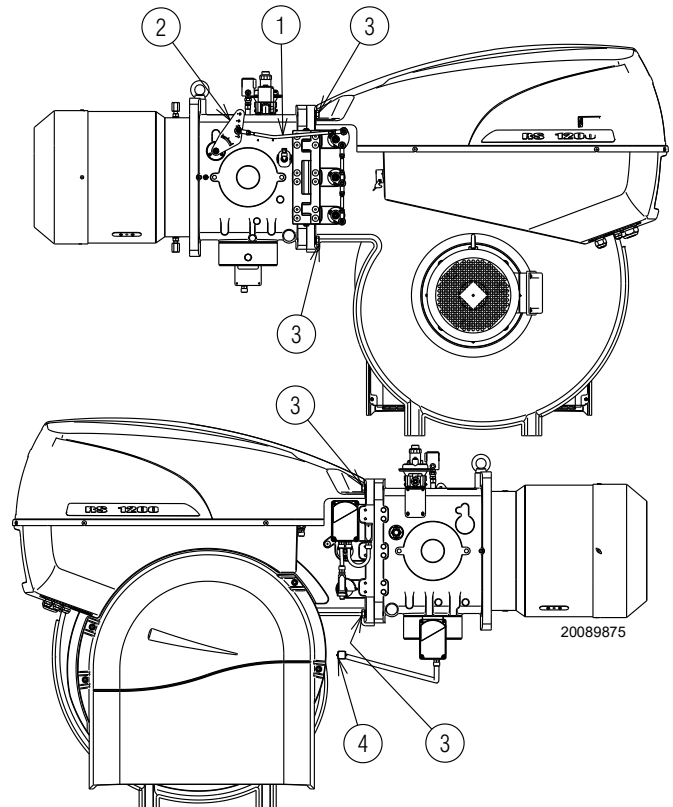

Fig. 30
- Remove the tie-rod 1)(Fig. 30) of the head movement lever, undoing the nut 2).